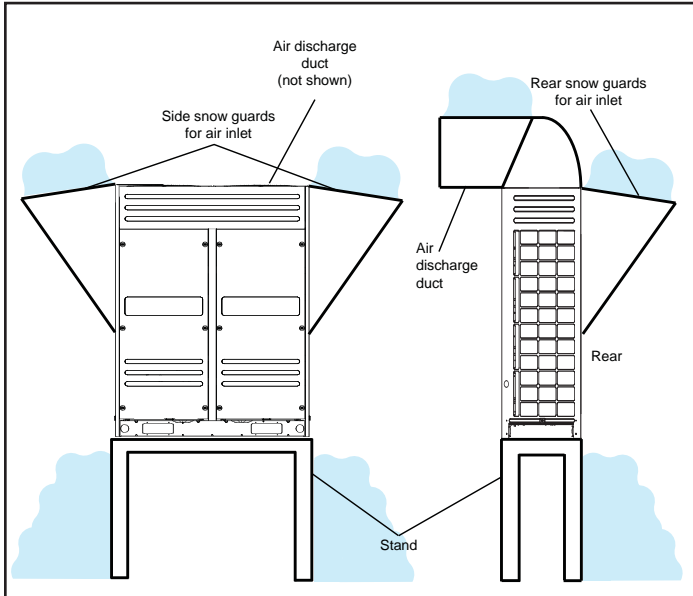

Figure 5. Snow Protection
- In heavy snow areas, do not locate the unit where drifting will occur. The unit base should be elevated above the depth of average snows. See figure 5.
- Install snow guards to prevent snow fall from entering air inlet and outlet. See figure 5.